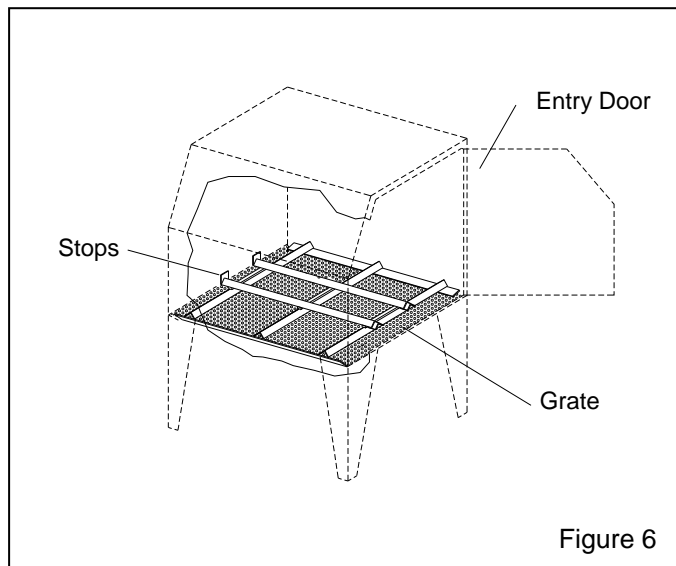

Figure 6
3.3.2 Place the inside track in the cabinet over the existing grate as shown in Figure 6.